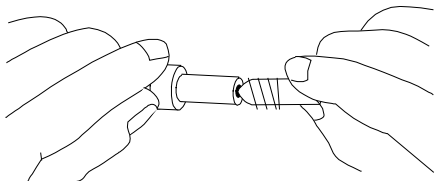

Figure 4.3E
- H. Slide the electrode spring over the T-115 spring assembly tool. Screw electrode spring 3 full turns onto electrode screw (See Figure 4.3E).